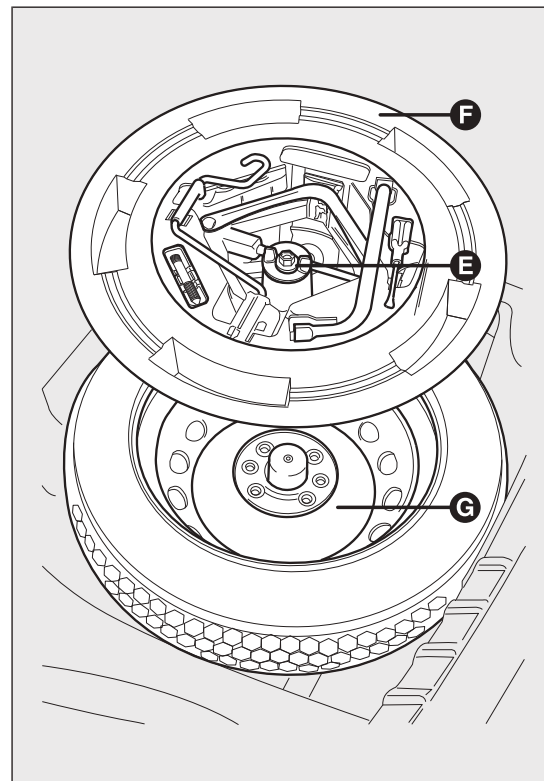

fig. 131
- arrange the space-saver wheel G fig. 131 in the specific compartment in the luggage compartment;